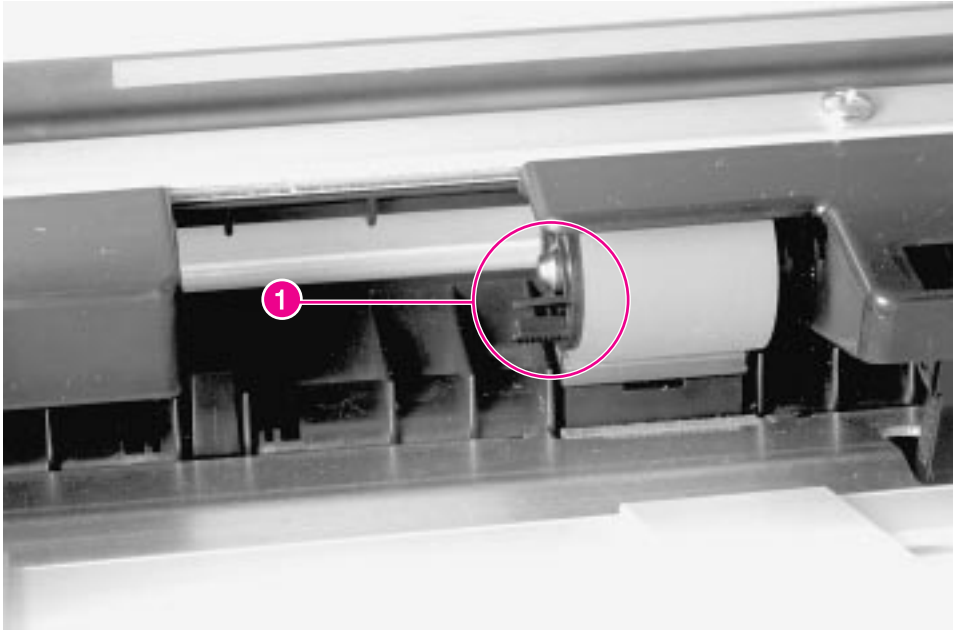

Figure 6-46 Tray 1 Feed Roller
- 2 Pinch the retainer tabs together (figure 6-46, callout 1), and slide the roller to the left off of the shaft.